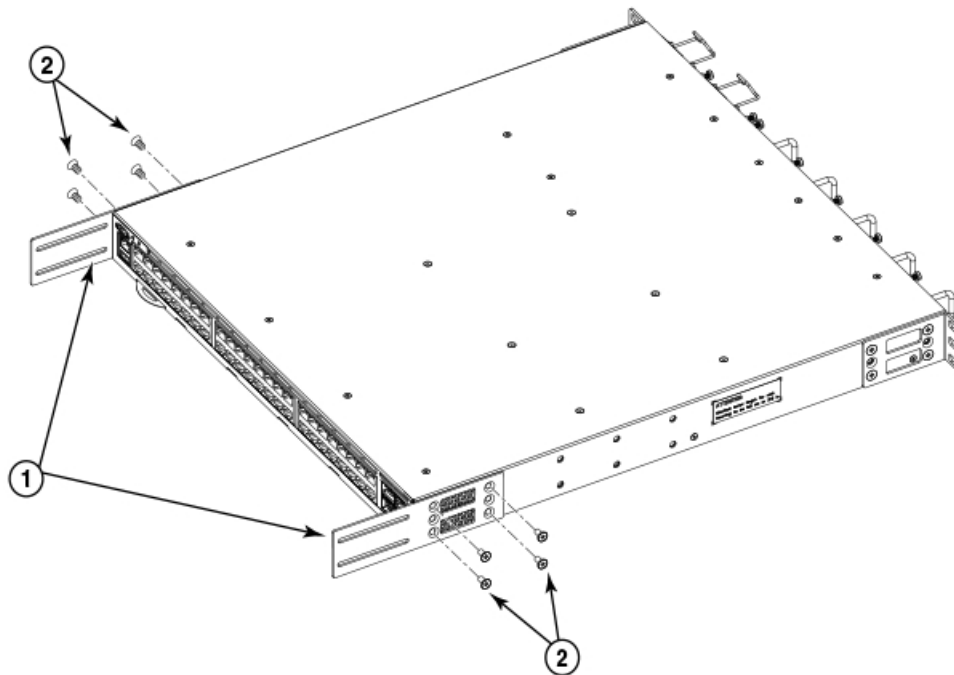

Figure 10. Attaching the bracket extensions to the device
2. Position the right bracket extension along the side of the device as shown in Figure 10 on page 23.